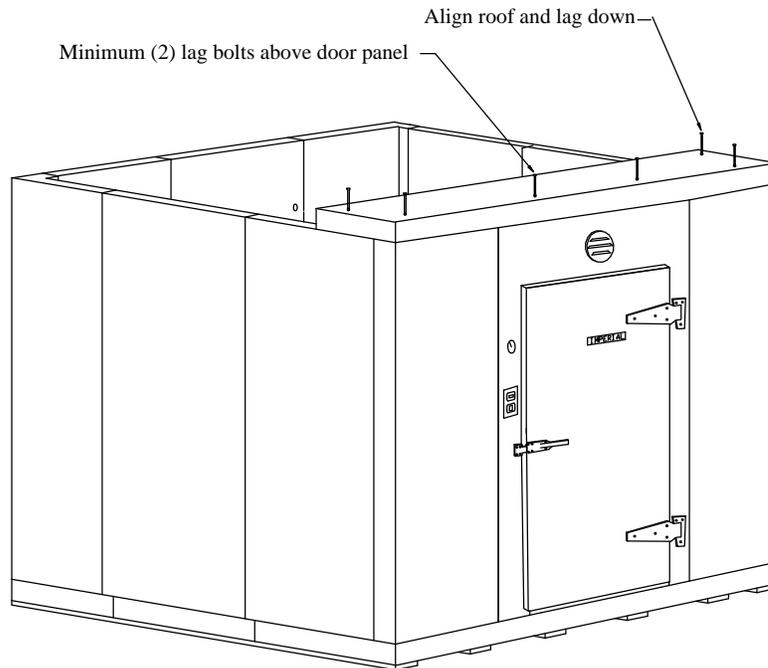

Figure 8a - Completing Wall Panels Installation
1. When installing ceiling panels it is recommended that the first panel be located above the door (see figure 8a). As each ceiling panel is cam-locked together make sure the ends of each panel are flush with each other.